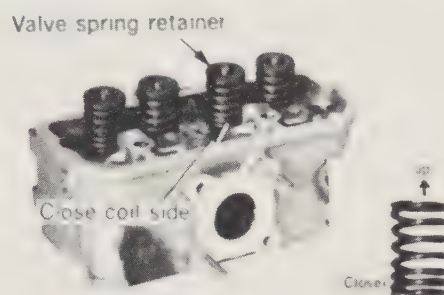

Fig. 1.22. Fitted position of valve spring
- 10 Fit the intake and exhaust valves with the inner and outer valve springs, valve spring retainers and keepers in the cylinder head, using a valve spring compressor to compress the springs. Take care not to damage the lip of the intake valve oil seals when fitting the intake valves. Fit the valve springs with the close coil side toward the cylinder head as shown in Fig. 1.22.